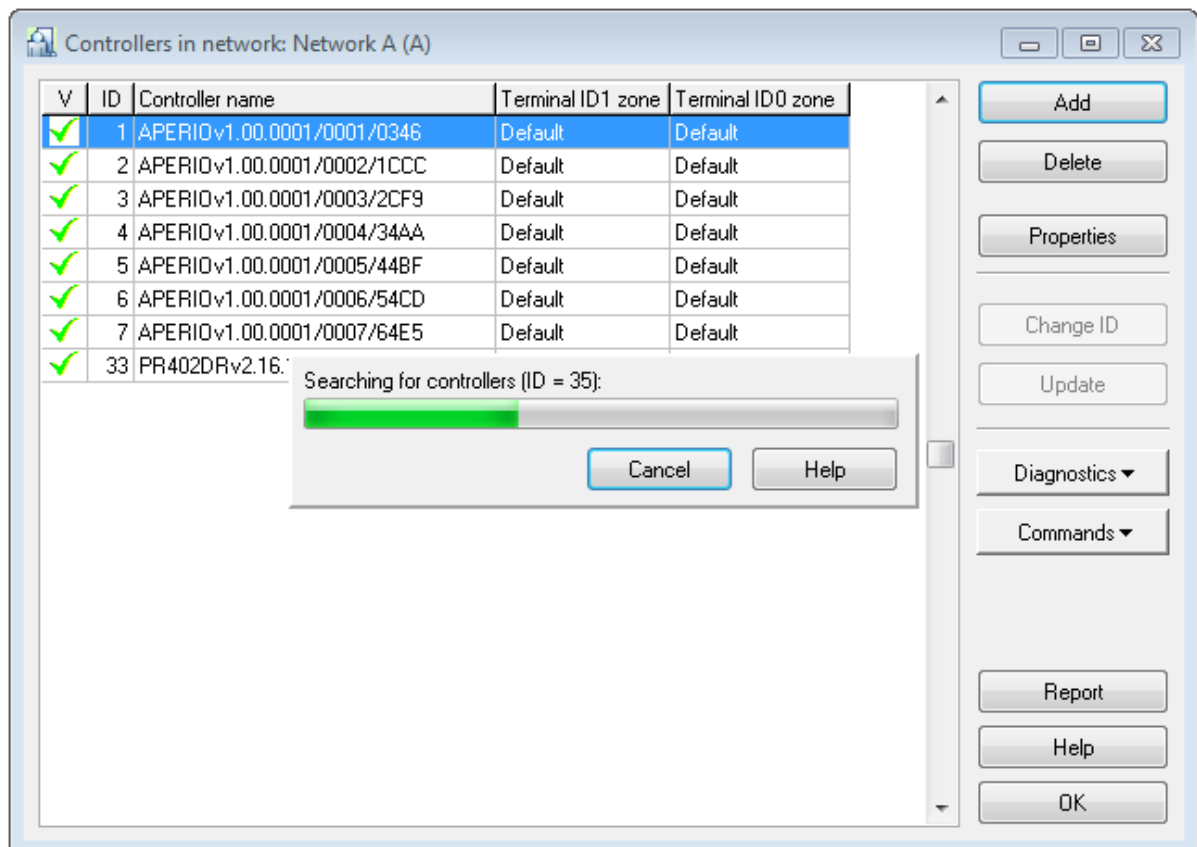

Fig. 6 Detection of APERIO locks and Roger controllers
13. PR Master shall search for APERIO door locks and Roger controllers in range of 0-99 addresses (see fig. 6). When APERIO door locks are detected then they are shown in the main windows of PR Master software.